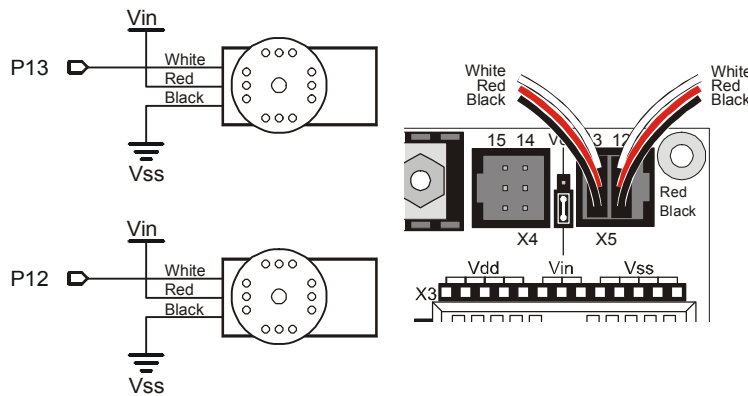

Figure 2-13
All examples and instructions in this book will use the battery pack. Figure 2-13 shows the schematic of the circuit you will build on the Board of Education Rev C. The jumper is set to Vin.
- ✓ Connect your servos to your Board of Education Rev C as shown in Figure 2-13.